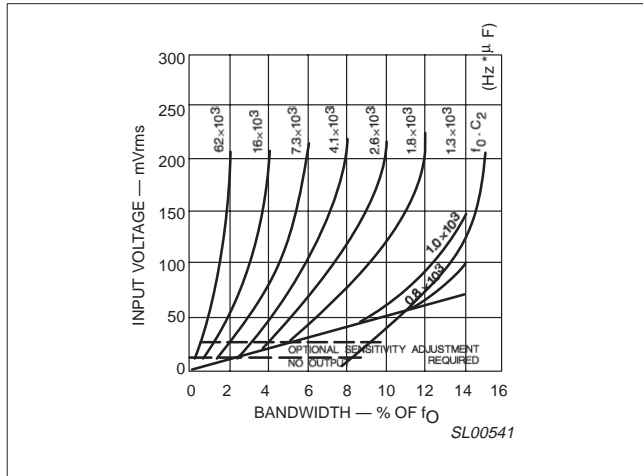

Figure 4. Bandwidth vs. input signal amplitude
2. Select the low-pass capacitor, C_2 , by referring to Figure 4, 'Bandwidth vs. input signal amplitude'. If the input amplitude variation is known, the appropriate value of $f_o \cdot C_2$ necessary to give the desired bandwidth may be found. Conversely, an area of operation may be selected on this graph and the input level and C_2 may be adjusted accordingly. For example, constant bandwidth operation requires that input amplitude be above 200mV_{RMS}. The bandwidth, as noted on the graph, is then controlled solely by the $f_o \cdot C_2$ product (f_o (Hz), $C_2(\mu F)$).